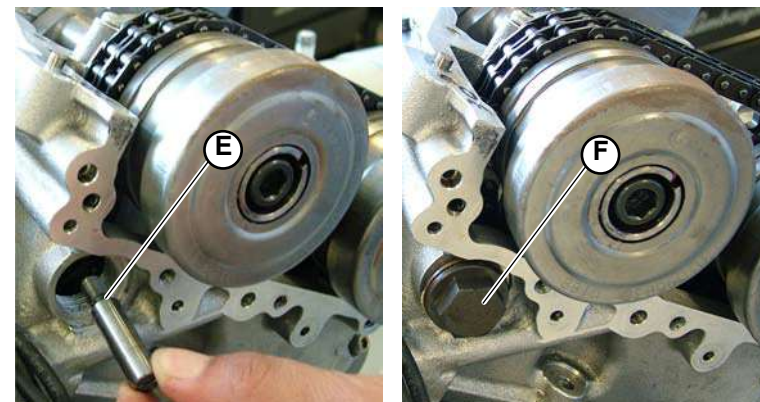

Fig.6
4. Tighten the screw (**E-Fig.6**) and reposition the cap (**F-Fig.6**).